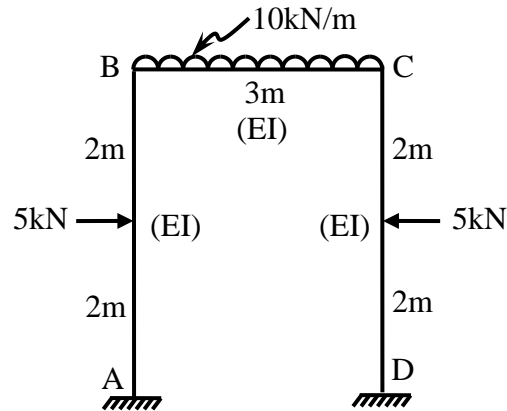

Fig.3
7. Analyze plane frame shown in fig.3 by Moment Distribution Method. Draw axial force, shear force and bending moment diagrams showing all salient points. $E = 25000 \text{ N/mm}^2$, $b \times D = 300 \text{ mm} \times 400 \text{ mm}$.
10. Analyze plane frame shown in fig.3 using any structural analysis professional software and compare the results with the results obtained in Q.7.